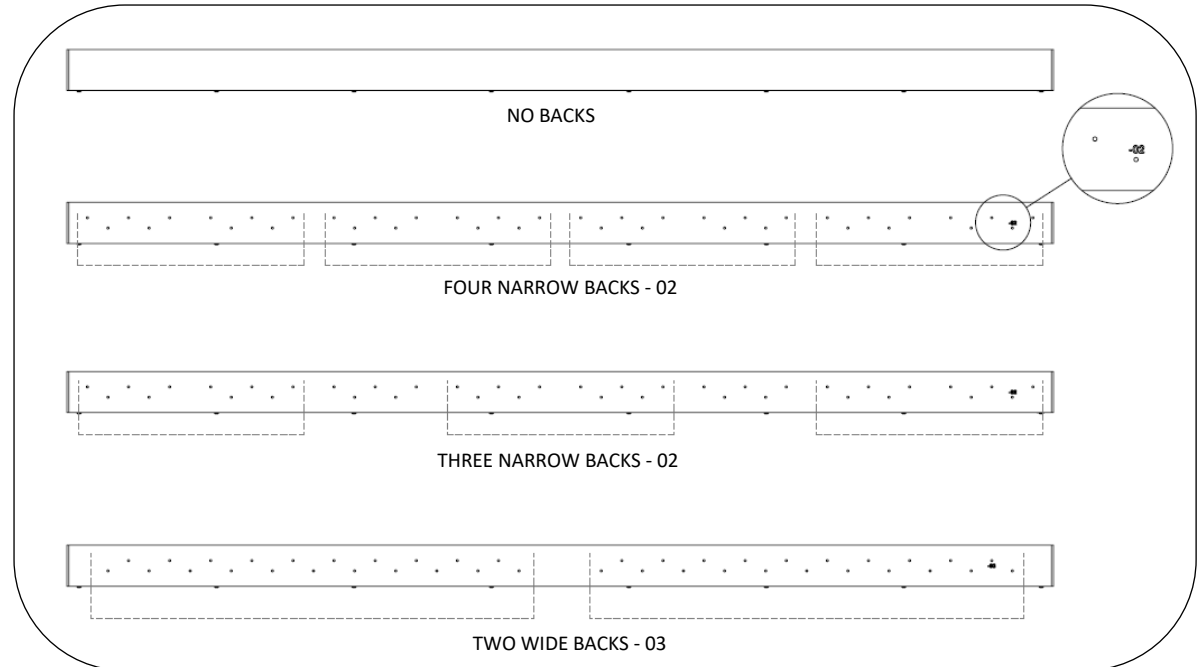

Fig. 4 – hole patterns for narrow and wide backs
3. Set bench in position. NOTE: the seat panel has tapped holes on one side for back attachment, see Fig. 4. Units with two wide backs have a different seat panel than units with three/four narrow backs. When setting bench in position to mark holes, verify that seat panel is oriented correctly to allow for back installation.
8. Attach backs, if specified, see Figs. 9-11. Refer to Fig. 4 for hole locations and proper placement of various back configurations.